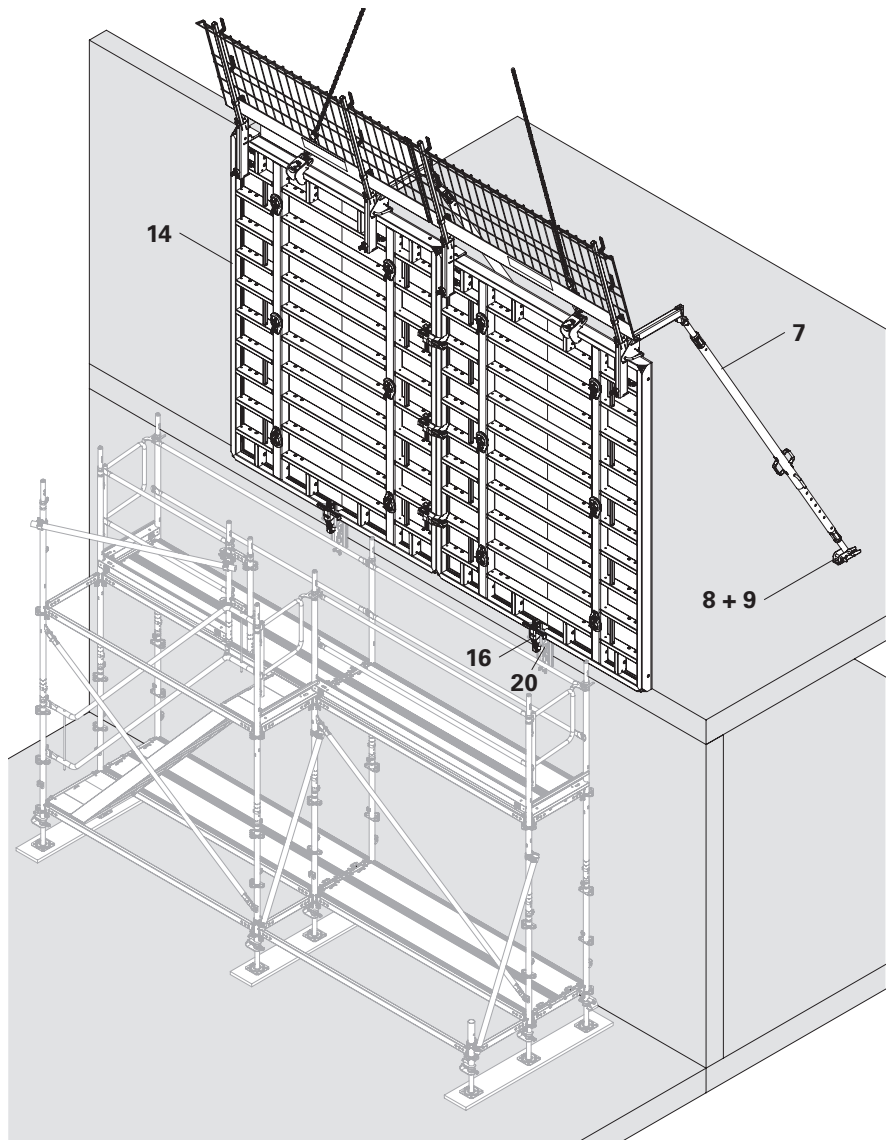

Fig. B3.02
8. Set up formwork unit (**14**) with Push-Pull Props RS (**7**). (Fig. B3.02)